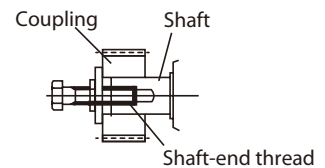

Fig. 5-1
- Shrink fit or shaft-end thread is recommended for mounting (Fig. 5-1).